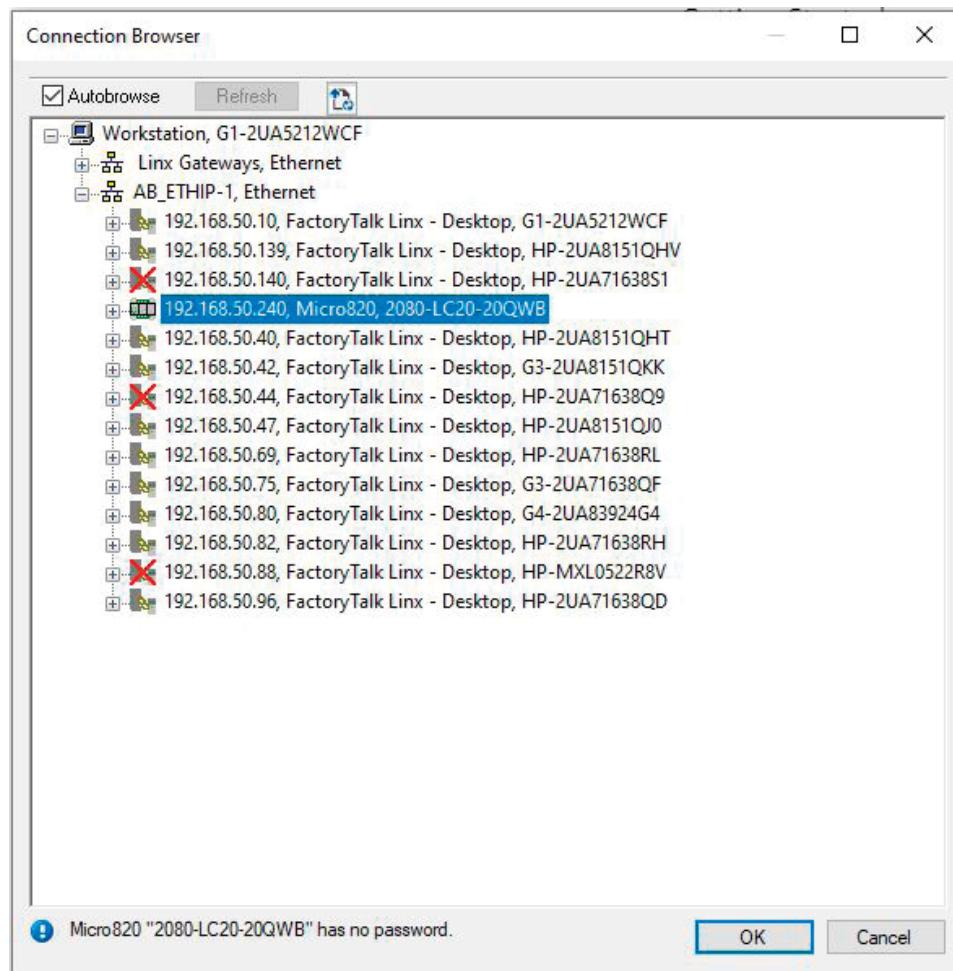

Figure 1-21. Connection Browser Window with Micro820 Selected
F. Locate the Micro820 gateway, similar to that in figure 1-21, and click to highlight.
The IP address may be different than that in figure 1-21.
G. Click on **OK** on the bottom right of the window, as seen in figure 1-21.